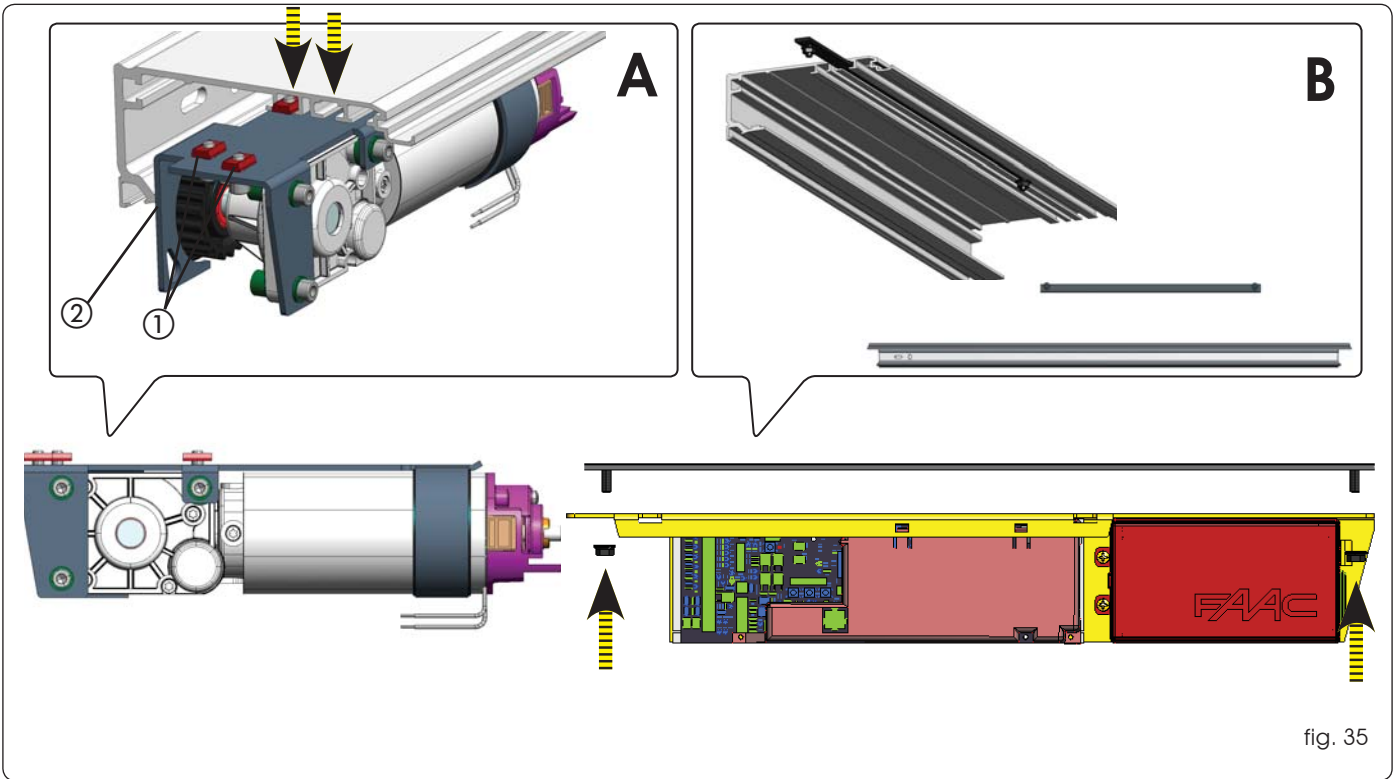

fig. 35
Then insert the electronics module and secure it using the two rod bolts. (fig.35 B ① ②)
Insert 3 small plates sideways of the profile and secure the motor with the 3 screws to the support profile (fig.35 A ① ).
On the motor bracket there is a gauge with a belt lift-proof function (fig.35 A ② )